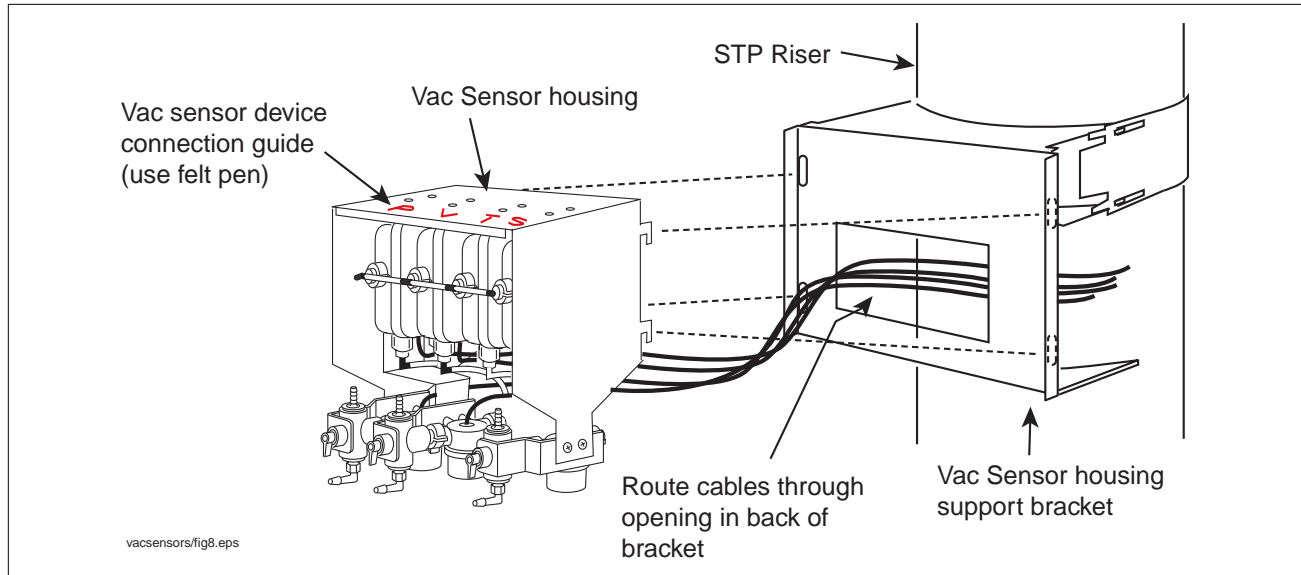

Figure 9. Attaching Vac Sensor housing to support bracket
2. Use a felt pen and write on the top of the Vac Sensor housing to what device each of the Vac Sensors below will be attached (see Figure 9). For example, P = product line, S = sump interstice, V = vapor line, and T = tank interstice. NOTE: If the mark you wrote on the housing over the first Vac Sensor was 'P', locate the cable ends of this Vac Sensor/Vac Float pair, tape them together about every foot along their length and at their ends, and tag the end of this cable pair 'P' or 'Product Line Vac Sensor'. Repeat this taping and tagging for each of the Vac Sensor/Vac Float pairs. The Vac Sensor marked 'T' will only have one cable, so tag the end of this cable 'T' for 'Tank Vac Sensor'.
Route all of the cables through the opening in the mounting bracket and attach the Vac Sensor housing to the bracket by pushing the four hooks on the rear of the housing into the four slots in the bracket (see Figure 9)